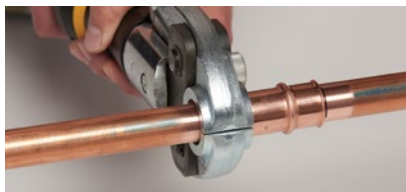

Figure 20
14. Press and hold the trigger on the press tool to begin the crimping process. Continue to hold the trigger until the tool completes its cycle (Figure 20). The jaws will not open until the cycle is completed without manual override. Repeat the process for the remaining fitting ends where appropriate.